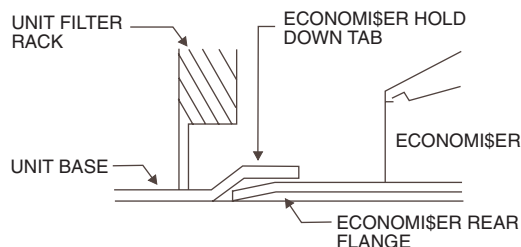

Fig. 35 — Rear EconoMiSer Flange Installation
7. Slide the EconoMiSer assembly into the rooftop unit. See Fig. 35 and 36.
NOTE: Be sure to engage rear EconoMiSer flange under tabs in return air opening of the unit base. See Fig. 35.